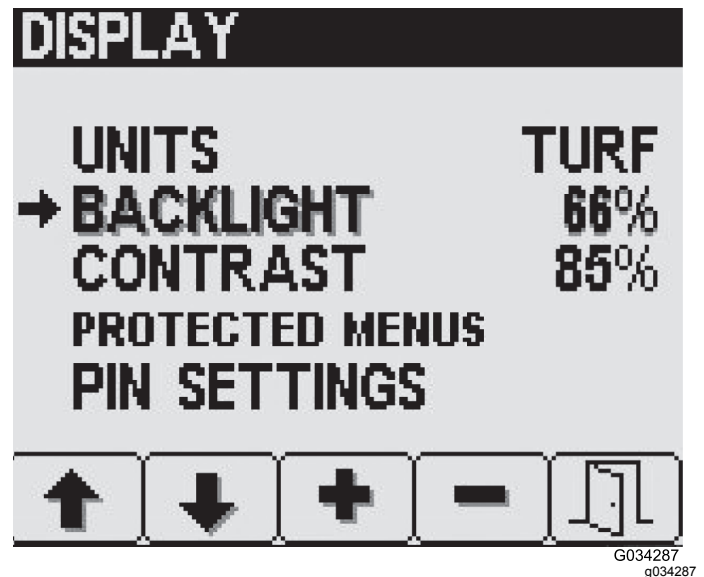

Figure 21
1. Press button 2 on the Display settings screen until you reach Backlight or Contrast (Figure 21).
2. Use buttons 3 and 4 to set the desired value (Figure 21).